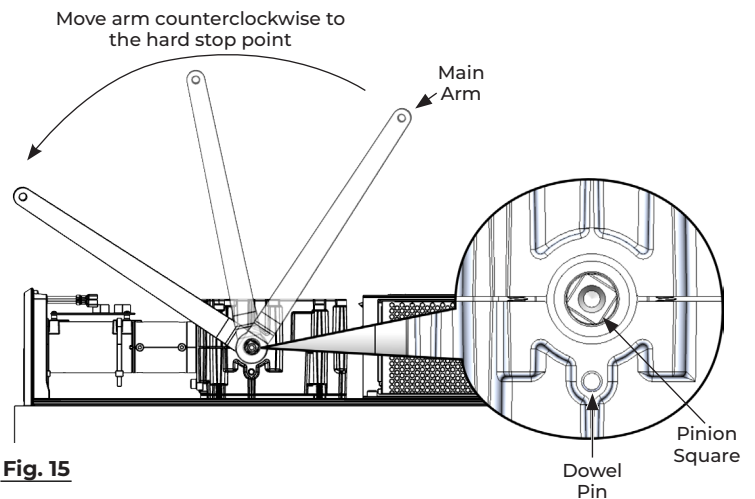

Fig. 15
1. Locate the dowel pin on the side of the operator housing (adjacent to the pinion square). (Fig. 15)